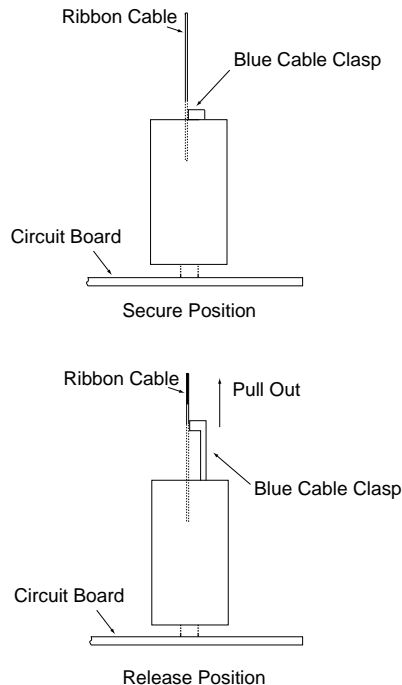

Figure 4.1.7: Cable Clasp Operation
3. If the power board is of the **previous** series (① in Figure 4.1.8), refer to Figure 4.1.7 for cable clasp operation. If the board is of the **current** series (② in Figure 4.1.8), carefully lift each gray cable clasp to its release position. Remove the three flex cables.